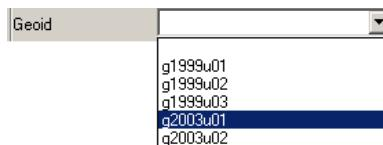

Figure 3-19. Select Geoid Model
- In the right panel, select a geoid model (Figure 3-19).